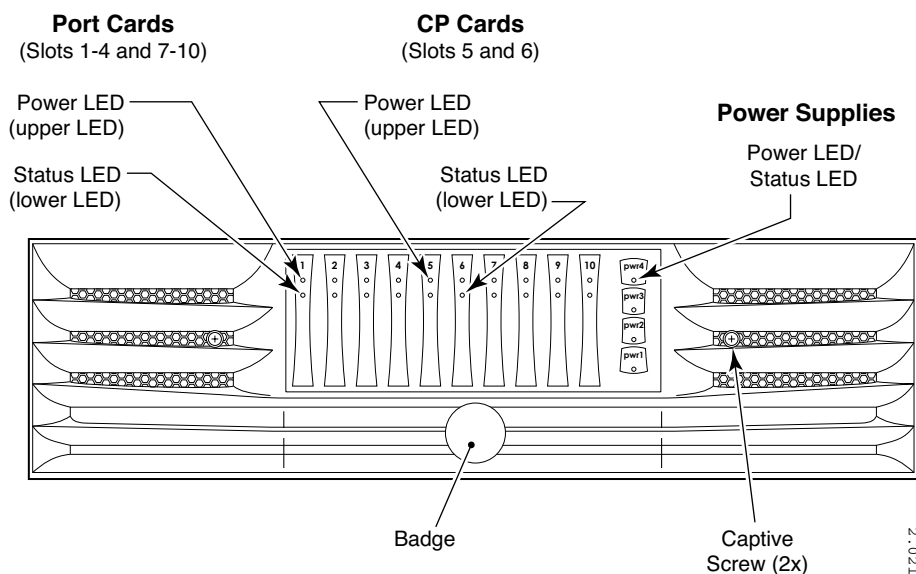

Figure 19 WWN bezel LEDs
1. Check the LED indicators on the WWN bezel (see Figure 19) and verify that they reflect the actual status of the components.